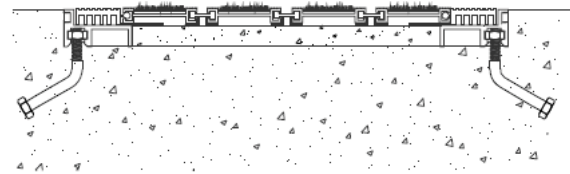

Figure 9
**STEP 15.** After the mat has relaxed, place the mat into its installed position in the frame (see Figure 9). Ensure that the mat is centered in the frame and that it is level, plumb, flush, flat and properly oriented. If the mat is provided in sections, place each mat section into its installed position, splicing mating sections of the mat together. Ensure that the mat sections are level, plumb, flush, flat, properly oriented and properly aligned and that each mat section is in the position established for it and illustrated in the details. The mat sections are assigned a letter designation, which is marked on the mat sections, to ensure proper placement.